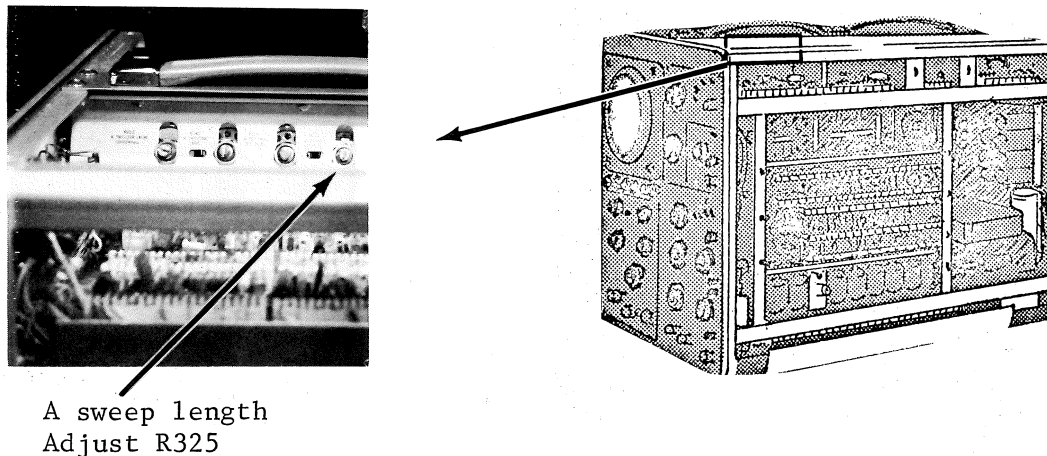

Figure 63
3. Adjust A SWEEP LENGTH adjustment (R325-See Figure 63) for 10.5 cm of horizontal deflection --- 5 100 μ sec markers to the right of the last 5 msec marker. (See Figure 64)